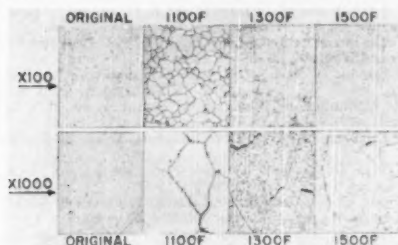

FIG. 14 MICROSTRUCTURAL CHANGES IN 18-8-NI-MO DURING 3000-HR CREEP TEST
**Microstructural Changes.** A number of changes in microstructure may occur in metals merely as a consequence of time at temperature. These changes occur independently of, but may be altered by, stressing. They are a result of the striving of the metal to attain thermodynamic equilibrium. Among the changes which may occur are carbide spheroidization, graphitization (this change has been of considerable interest to power-generating engineers in recent years), allotropic transformations, strain-aging, and precipitation processes of one kind or another. The changes which occur in one specific alloy, 18 Cr-8 Ni-Mo (AISI Type 316), are shown in Fig. 14. In this alloy, carbide and sigma phase (not differentiated in the figure) precipitate in the initially homogeneous matrix. It should be